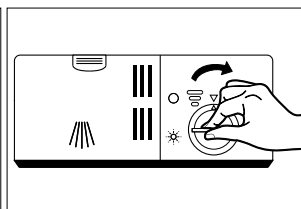

Fig. 11
- ▶ Replace the lid with the arrow tip onto the left arrow again and twist it clockwise onto the right arrow (see **Fig. 11**).